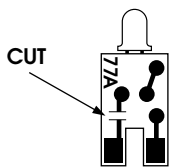
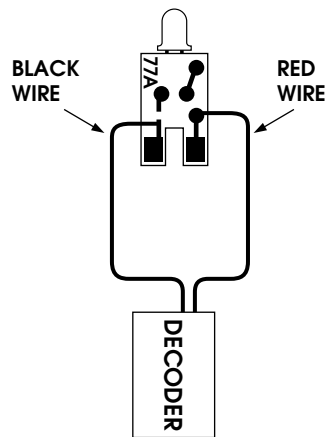
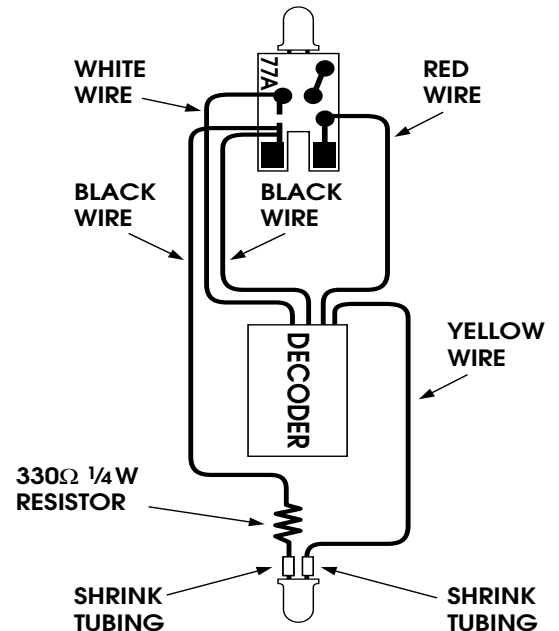

Fig. 1
Fig. 2
Fig. 3
- Lay the light board out in front of you, parts side down as shown in (Fig. 1). With a sharp hobby knife make a cut in the circuit trace as shown (Fig. 1). Attach the BLACK and RED wires as shown (Fig. 2). Solder WHITE wire to front light board and the YELLOW wire to rear light as shown in (Fig. 3).